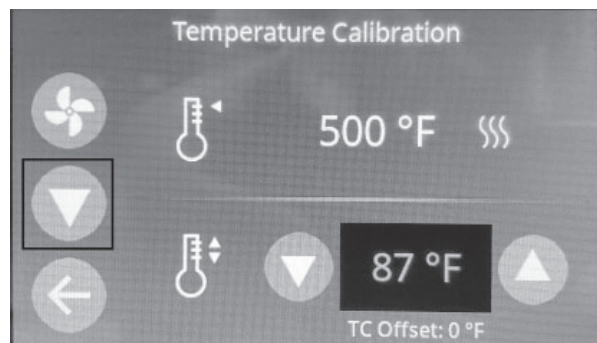

Figure 37
- Conveyor Belt Calibration - From the temperature calibration screen press the “▼” button as highlighted below in (Figure 37).